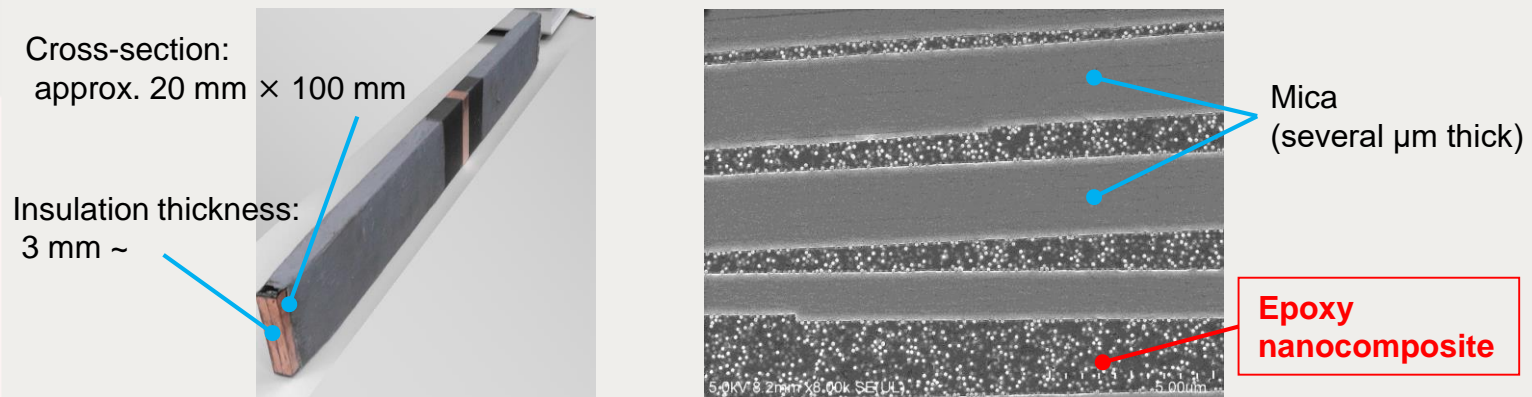
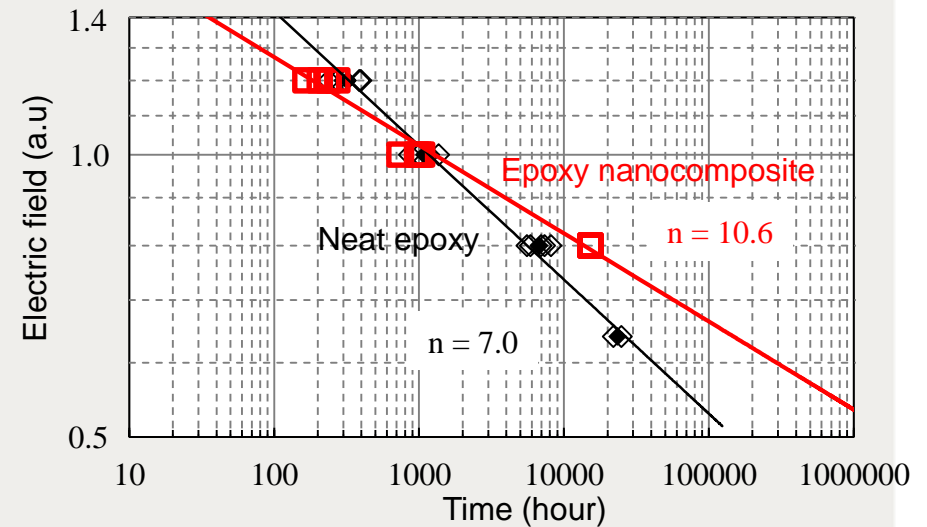

Figure 3: Real-scale stator coil model and its SEM image.
Figure 4: Voltage-endurance test.
- **Real-scale stator coil models** were manufactured, in which conductors were wound by mica tape and vacuum impregnated with nanoparticle-filled epoxy resins (Figure 3). The insulation lifetime characteristics, the most essential factor for the stator coils, were successfully demonstrated (Figure 4).